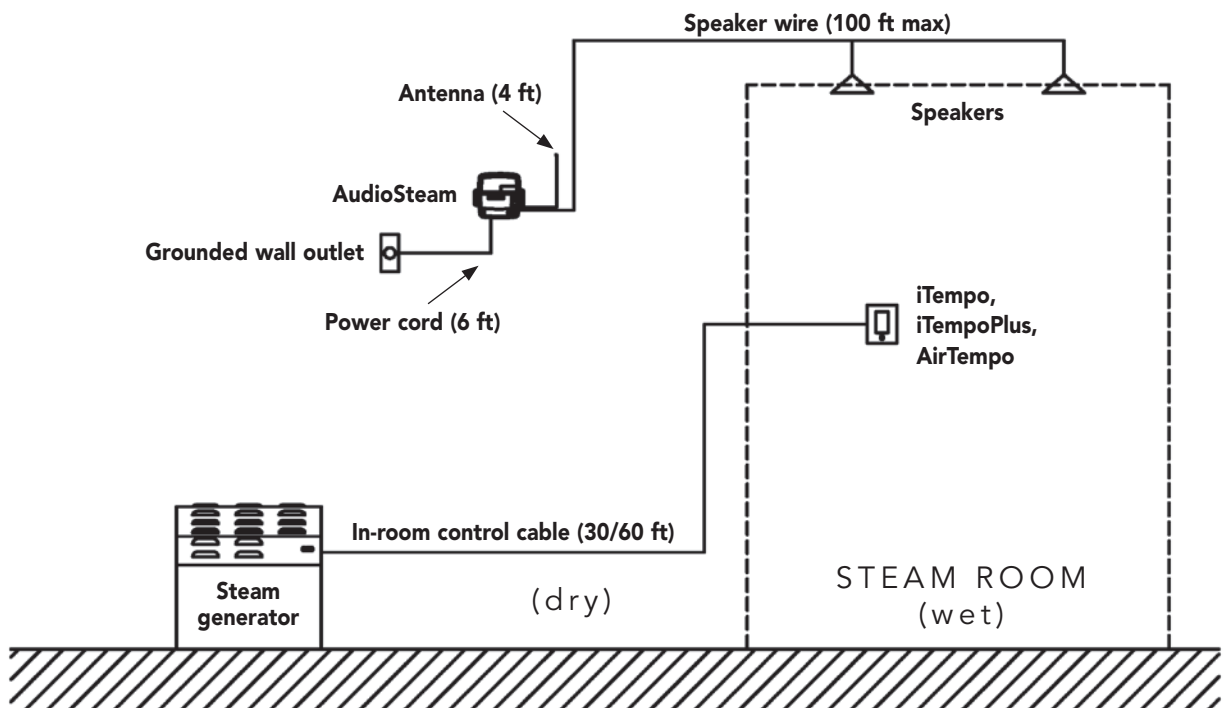

Figure 2
**Figure 2** shows how to use the AudioSteam as a standalone system within your steam room (i.e., if your steam room does not use iSteam3).